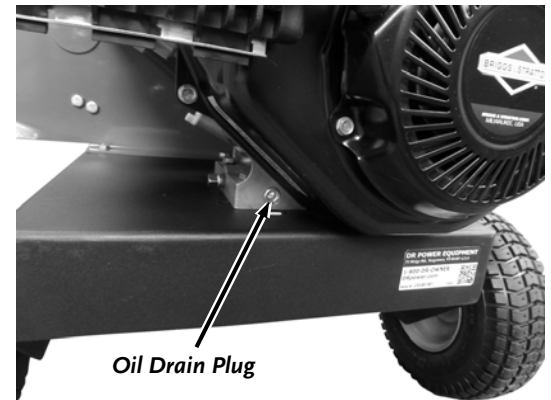

Figure 12
2. Remove the Oil Drain Plug at the front of the Engine using a 1/4" Allen Wrench allowing the used oil to drain completely through the drain hole and down into the Container (**Figure 12**).